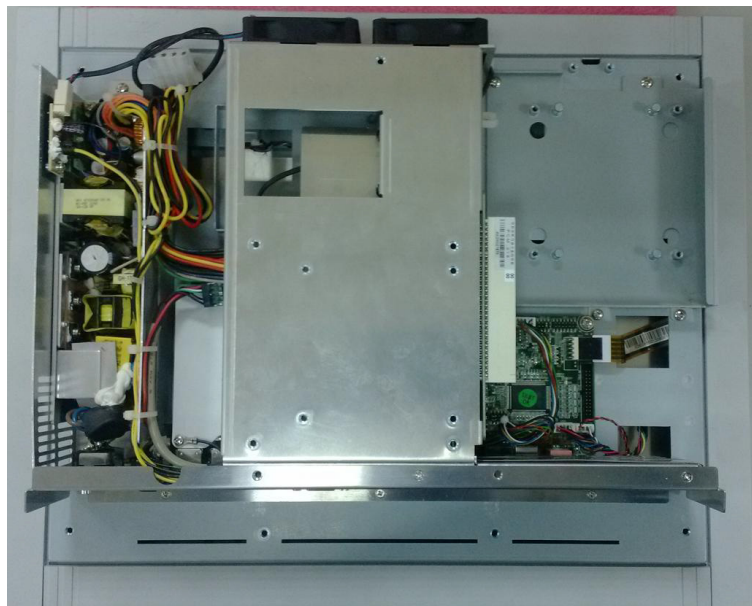

Figure 2.9 After removing rear cover
1. Remove the rear cover of the panel PC. (See Fig 2.9)